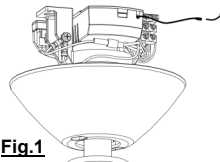

Fig.1
- Occasionally there may be a poor signal (location) received by the handpiece. This can be improved by ensuring the antenna is outside the top canopy (see Fig.1 & 2).